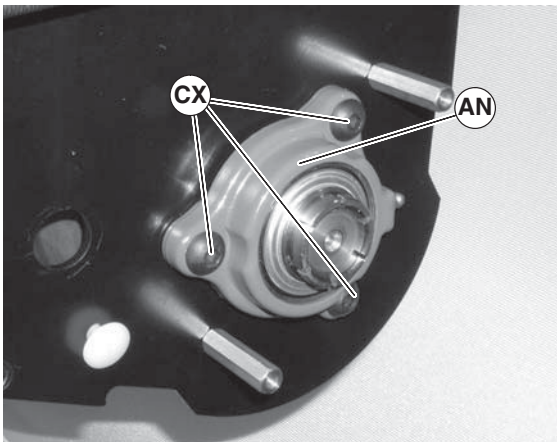

Figure 92
4. Remove the three (3) mounting screws (Figure 92, item CX).
5. Remove and replace housing assembly (Figure 92, item AN).
6. Tighten three (3) mounting screws (Figure 92, item CX) to 200 in-lbs (22.5 N-m).